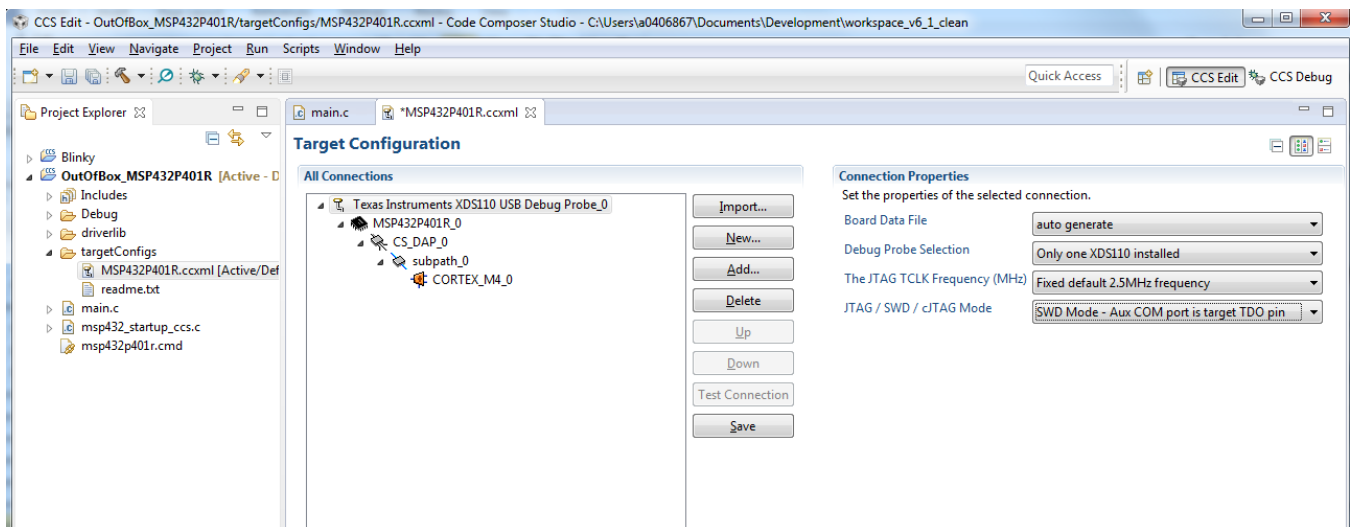

Figure 13. Connection Properties
3. Figure 13 shows the Connection Properties are shown. In JTAG/SWD mode, select *SWD Mode – Aux COM port is target TDO pin*.